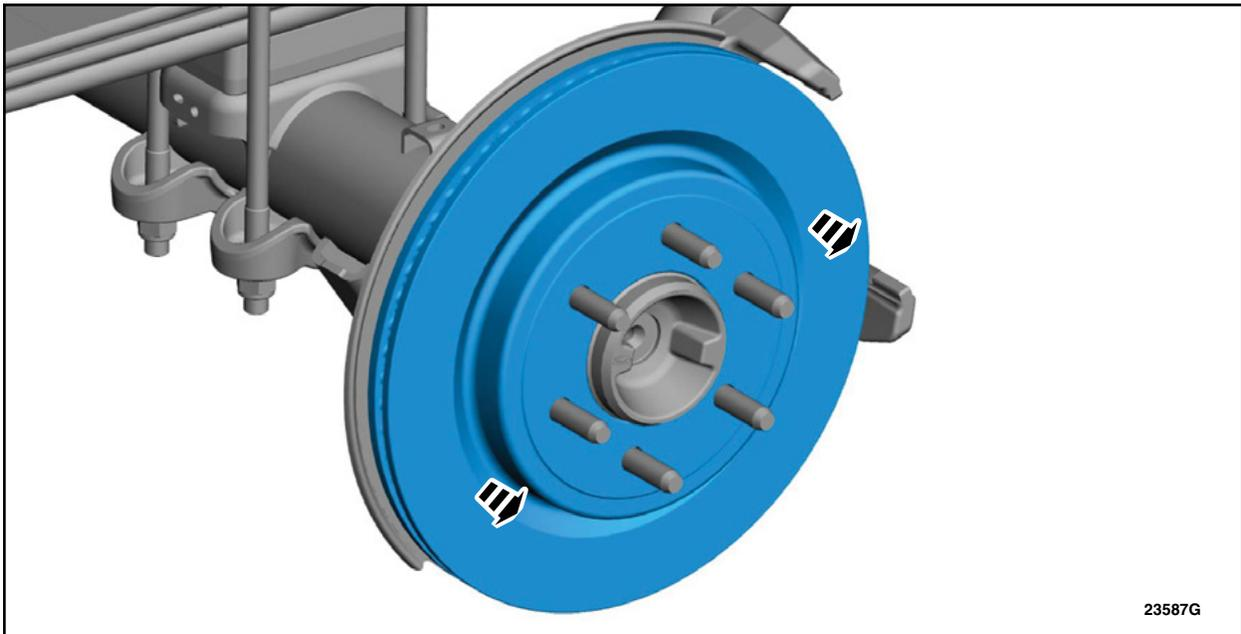

FIGURE 3
6. On both sides, remove the brake disc. See Figure 3.